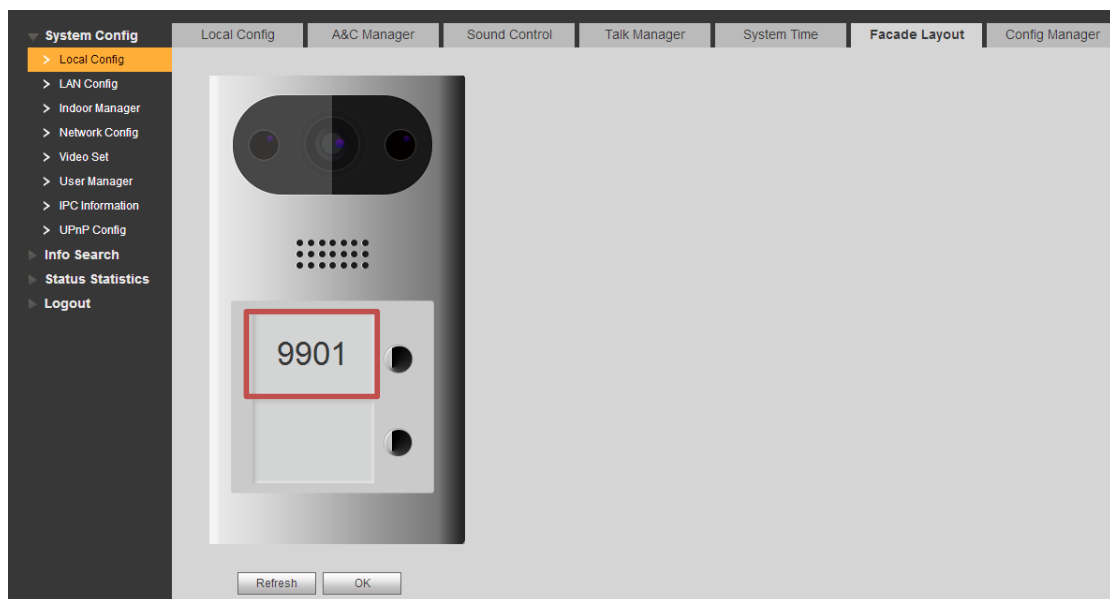

Figure 3-9
Step 6. Click System Config>Local Config>Facade Layout, click white area on the left, and select VTH room no., see Figure 3-9.